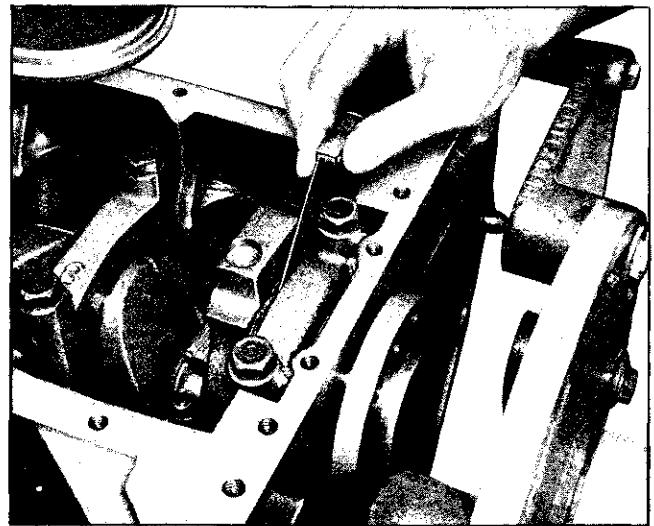

Fig. 6-52 Checking Crankshaft End Play
6. Check crankshaft end play with feeler gauge at No. 7 main bearing (Fig. 6-52). If end play is over .006", replace bearing.